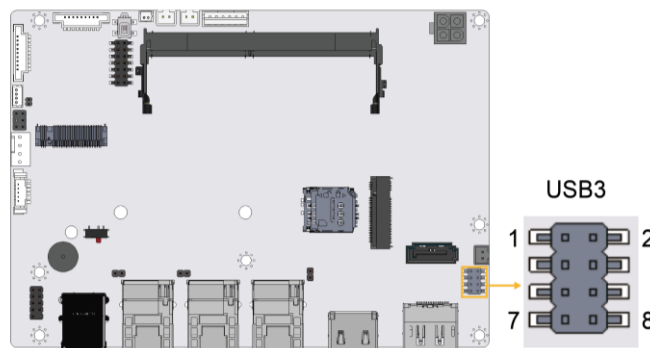

Figure 3-32: USB Connector Location
- CN Location:** See **Figure 3-32**